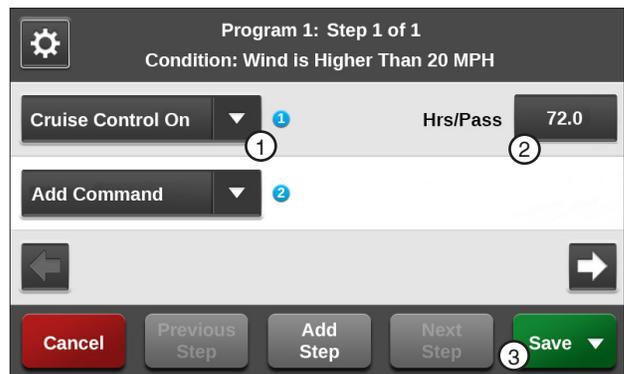

Figure 121-3 1. Cruise Control On Command 2. Hrs/Pass 3. Save
4. Enter the command to be executed when wind speed is higher than 20 MPH. Refer to Figure 121-3.